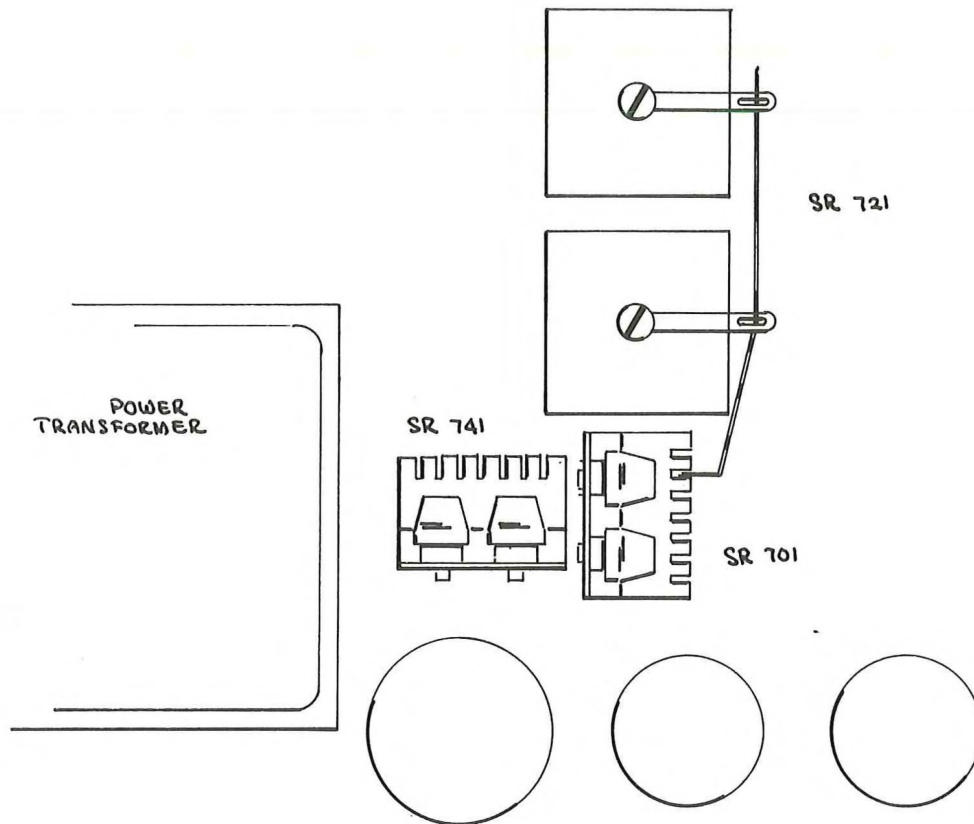

Fig. 2
- () Connect bare wire to SR701 as shown in Fig. 2.
- () Orient assembly as shown in Fig. 2. If replacing SR701, do not connect the bare wire to SR721 until step 3.
- () 3. Mount silicon rectifier assembly in instrument using a #6-32 x 3/8 screw and flat washer from the kit. Orient as indicated in Fig. 2 or 3.